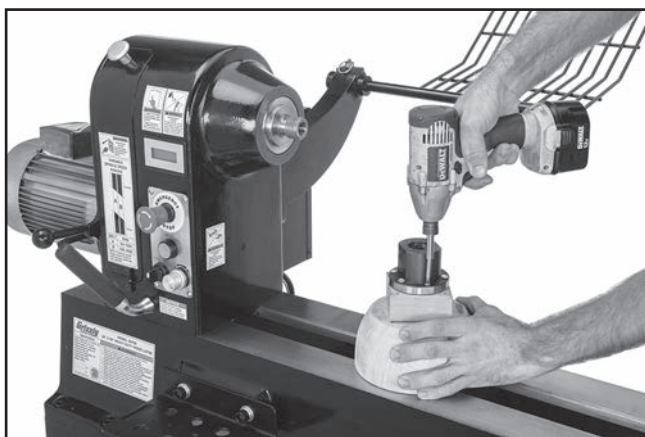

Figure 49. Typical attachment of faceplate to workpiece.
2. Center faceplate on workpiece and attach it (see **Figure 49**) with wood screws.